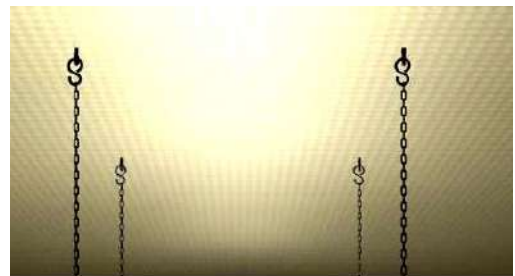

Fig. 2.2.1
**FHG** series heaters must be installed inside the room to be heated, in a **horizontal** position, with the electrical box placed to the side and the gas pipe connection pointing downwards. Use the 4 eyebolts supplied as standard to hang or bracket the machine, keeping it in a stable working position by means of a properly sized support structure (see Fig. 2.2.1).